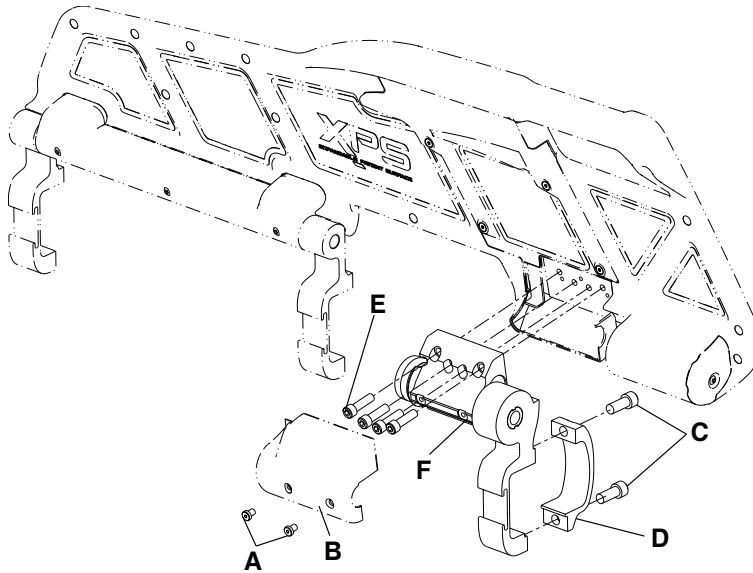

Figure 10 – Ratchet assembly replacement (XPS)
3. Using a 3/32" hex wrench, remove the two screws (A) that secure the ratchet cover (B) to the ratchet assembly (Figure 10). Remove and save the ratchet cover. Save the screws.
4. Using a 1/4" hex wrench, remove the socket head cap screws (C) that secure the siderail clamp (D) to the ratchet assembly at the foot end of the main assembly. Save the screws.